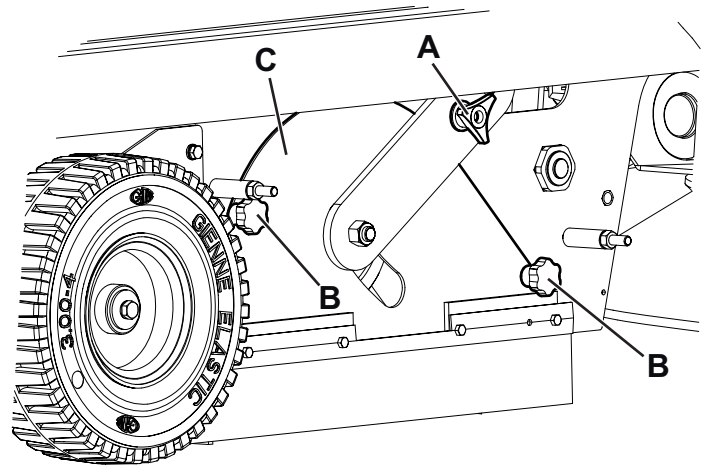
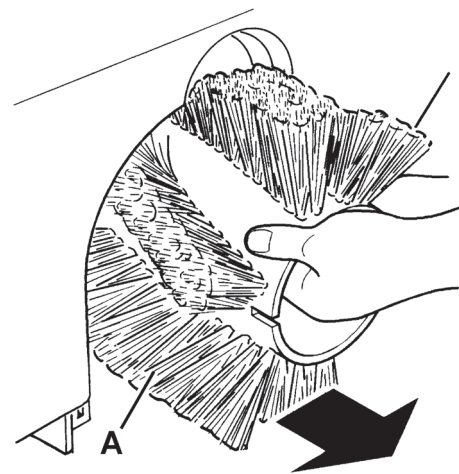
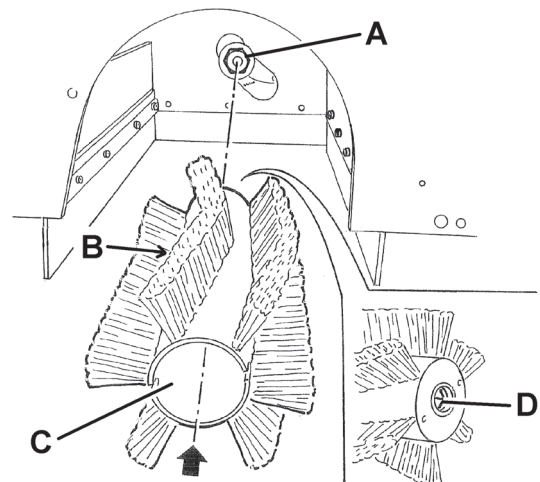

Figure 4
Figure 5
Figure 6
2. Turn the ignition key (72) to "0".
3. Unscrew the knobs (23) and remove the right door (22).
4. Loosen the knob (A, Fig. 4).
5. Unscrew the knobs (B) and remove the broom compartment cover (C).
6. Remove the broom (A, Fig. 5).
7. Check that the drive hub (A, Fig. 6) is free from dirt or foreign materials (ropes, rags, etc.) accidentally rolled up.
8. The new main broom must be installed with the bristles rows (B) bent as shown in the figure.
9. Install the new broom (C) and ensure that the mesh (D) correctly fits into the relevant drive hub (A).
10. Install the broom compartment cover (C, Fig. 4) and screw the knobs (B) and (A).
11. Install the right door (22), then screw the knobs (23).